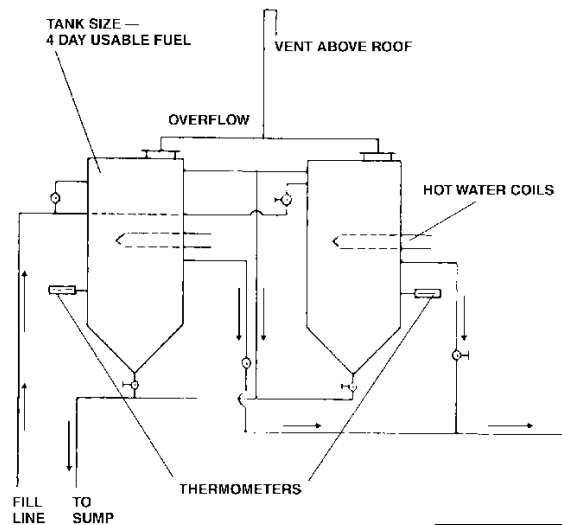

Figure 11
1. The crude may contain excessive amounts of sediment and water that will require removal before they get to the engine. This can usually be accomplished with a settling tank, **Figure 11**, a centrifuge or special filtering equipment or a combination of these methods. The crude may also contain solid particles of wax at ambient temperature that would plug the filters rapidly. It is impractical to try to remove the wax, but the crude can be heated sufficiently to dissolve it. The amount of heat needed will vary from one crude to another and
A great deal of sludge can be removed from crude oil by proper settling. A recommended settling system consists of two cone-bottomed tanks, **Figure 11**, each holding a little more than four days usable supply of fuel.